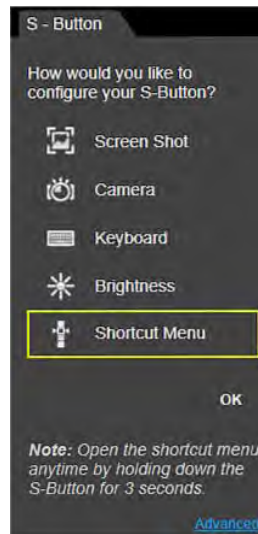

Figure 3-2 Shortcut (S) button configuration menu
1. Press and release the **Shortcut (S)** button.
3. Choose the function you would like the Shortcut button to perform when pressed (Figure 3-2).